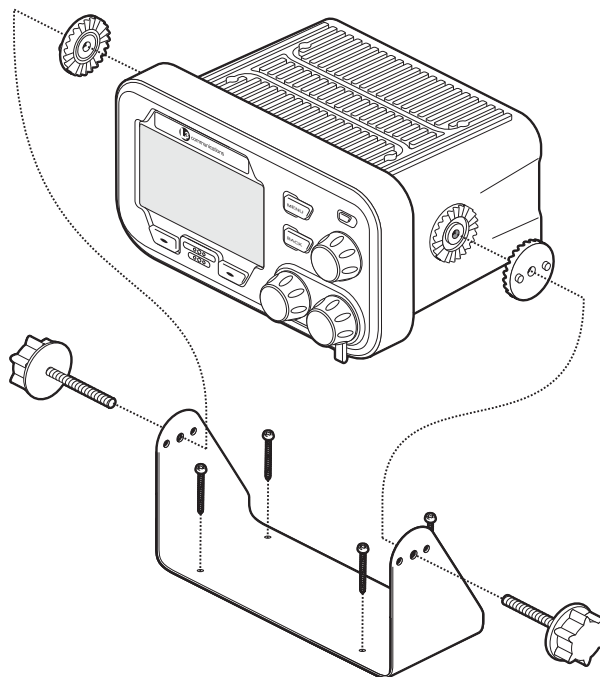

Figure 38 Mounting the AIS transceiver
- The transceiver is supplied with four self tapping screws for attachment of the AIS transceiver to a suitable surface using the trunnion bracket. Please refer to Figure 38 for guidance.